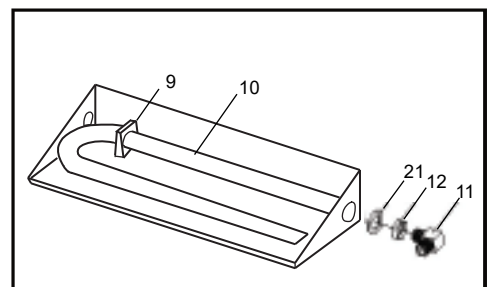

Figure 6. Burner bar connection
- Slide the 3/4" burner support spacer (Part # 10) over the Dual Burner bar (Part #9) and move spacer to opposite side of the gas inlet connection (See **Figure 6**).
- Secure the intake end of the Dual Burner bar (Part # 9) to the burner pan (Part # 8) through the knock-out hole selected (right or left hand) with the 3/8" brass orifice elbow (Part # 11), 3/8" locknut (Part # 12), and washer (Part #21) previously assembled in Step B (See **Figure 6**).